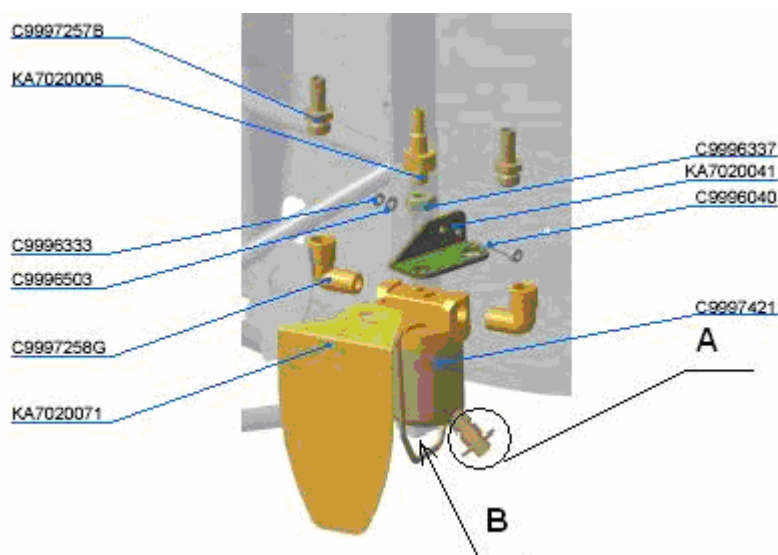

Fig. 7
2. For passing fuel through the lines and water in fuel by draining some fuel through the drain valve (item A, Fig. 7).
3. For foreign objects in the gascolator (Unscrew the nut (item B, Fig. 7), remove the bail and remove the body (ensure integrity of the O-ring that recovers its sizes upon some time needed to get it dry). Assemble the gascolator in reverse of the disassemble process).